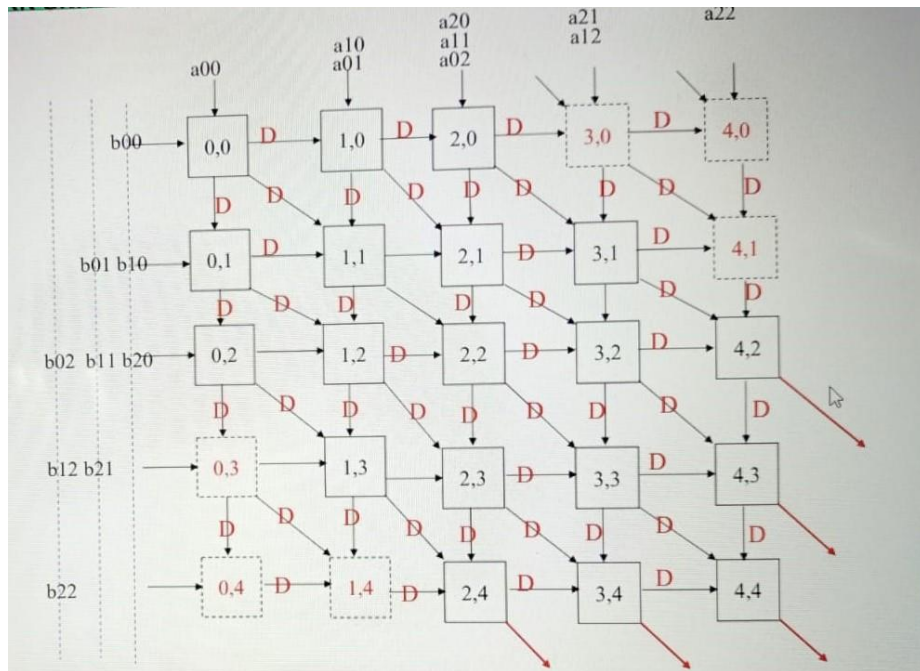

Figure 2a: Inputs given at regular clock pulses.
AS2 architecture has three inputs(horizontal, vertical, diagonal) and three outputs(horizontal, vertical, diagonal). It's helpful to find matrix multiplication and convolution. To obtain the result precisely, the vertical input of the first row PE is always set to zero. Firstly, the processing element(PE) for this architecture is designed. The systolic array receives inputs in the manner depicted in Figure 2a. Using this PE, a systolic array for a  $2 \times 2$  matrix(i.e. multiplication of two different  $2 \times 2$  arrays – a and b) is been designed and thus the  $2 \times 2$  matrix can be scaled to find the convolution of the  $m \times n$  array. A hexagonal systolic array is designed for this architecture. Seven PE is required for a  $2 \times 2$  array and thus it can be expanded to an  $m \times n$  matrix and can be used for convolution. Since the  $2 \times 2$  matrix is been created, we need only seven PE(let's say PE1(0,0), PE2(1,0), PE3(0,1), PE4(1,1), PE5(2,1), PE6(1,2), PE7(2,2) in the Figure 2a). The final matrix's elements come as output from the second clock pulse. All the final output matrix(let's say C matrix) elements will be delivered only in PE 4,5,6,7. At the third clock pulse C00 (at PE 7 ), C01 (at PE 6), and C10 (at PE 5) come as the output. And at the fourth clock pulse, we get C11(at PE 7). Thus every element of the final matrix C is been delivered within four clock pulses.